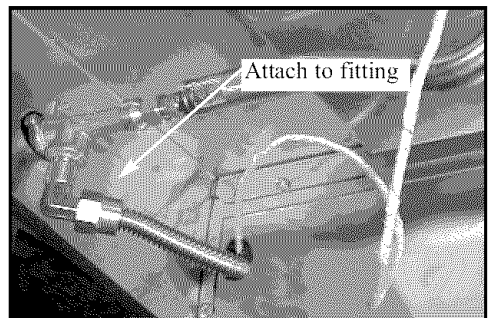

Fig. 7
2. Screw the Flex Line coming from the side of the grill to the fitting on the bottom of the Side Burner. (See Fig. 7)